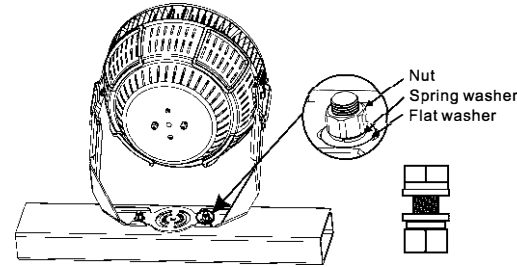

Figure 8
3. Install the luminaire on the crossbar and secure it with nuts, spring washers and flat washers (Figure 8);